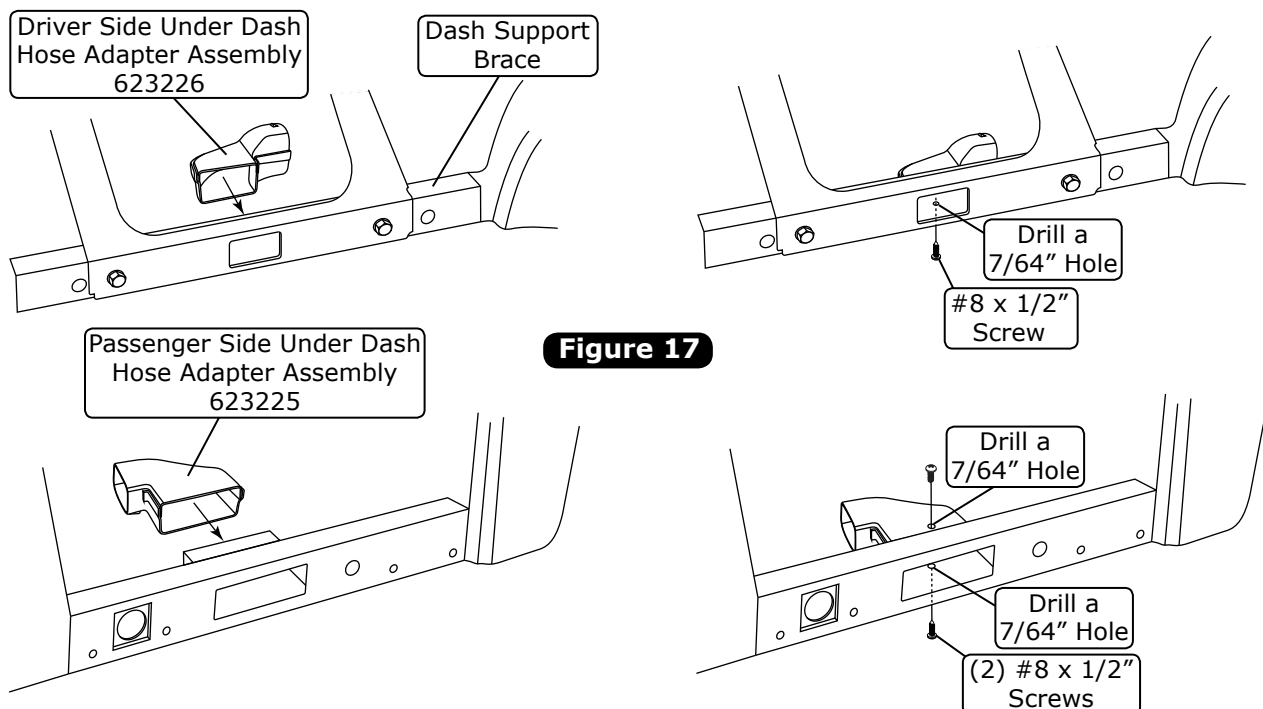

Figure 17
1. Locate the driver side under dash hose adapter assembly, and place it onto the bottom flange of the dash support brace under the steering column (See Figure 17, below). Center the hose adapter assembly onto the opening, and drill a 7/64" hole from the bottom flange of the support brace and through the hose adapter assembly (See Figure 17, below). Secure using a #8 x 1/2" screw (See Figure 17, below).
2. Locate the passenger side under dash hose adapter assembly, and install it onto the A/C duct located on the dash support brace under the glove box (See Figure 17, below). Drill (2) 7/64" holes through the duct and hose adapter assembly (See Figure 17, below). Secure using (2) #8 x 1/2" screws (See Figure 17, below).